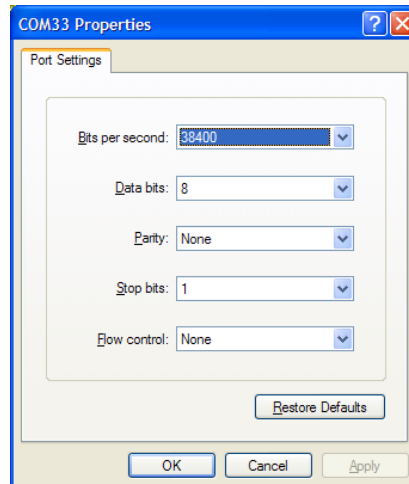
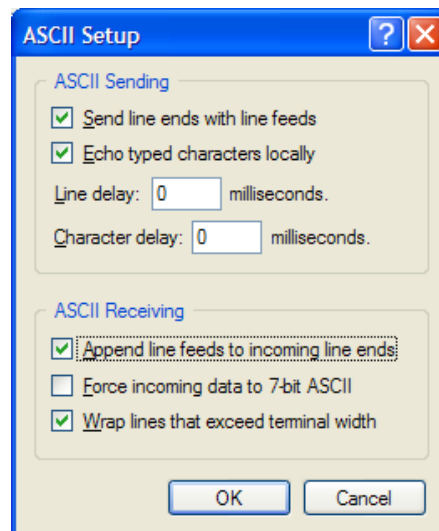

Figure 5-25. Default BeeKit RS-232 Settings
Figure 5-26. Additional Terminal Program Settings
3. Using Hyperterminal, set up a Virtual Com Port for each of the two nodes. Figure 5-25 and Figure 5-26 show correct RS-232 settings used to run the Wireless UART application.